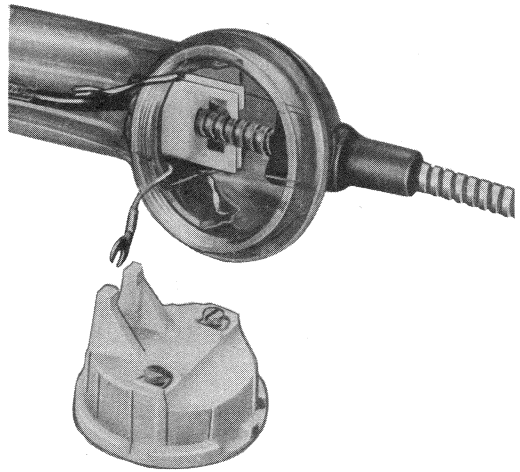

Fig. 15—Handset with Armored Cable
2.25 All current coin collectors and coin telephone sets are equipped with armored handset cords (Fig. 15). Transmitter and receiver caps are cemented to the handset handle. Refer to Section 501-210-102 for complete information on handsets.♦